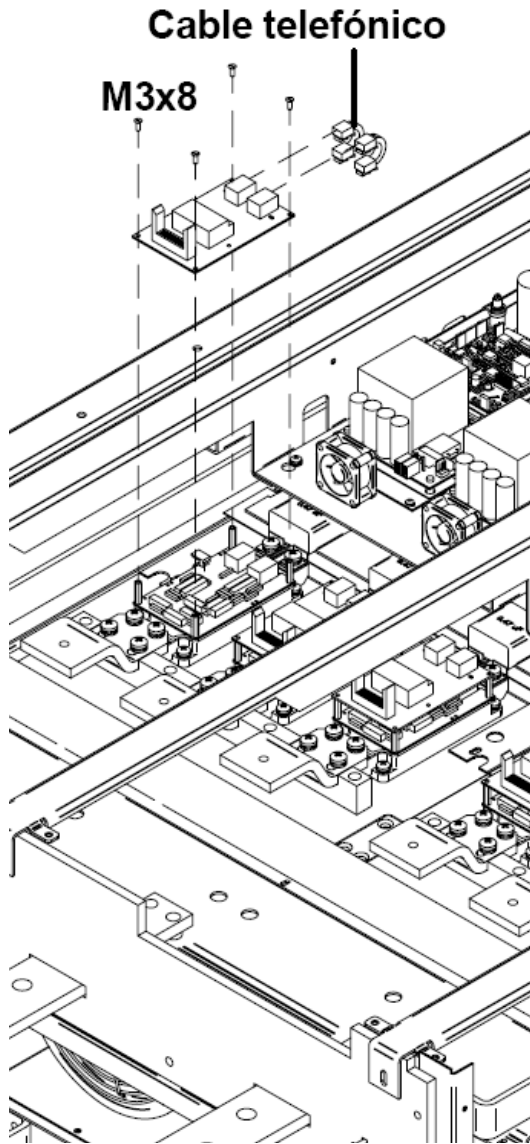

Figure 7.16. Disassembly of the Upper Gate drive
- 6) Place the DCCT Bar as it is shown in *figure 7.16*.
- 1) Insert the SCR in the heat exchanger (*figure 7.16*)
- 3) Insert the bars (*figure 7.16(a)*)